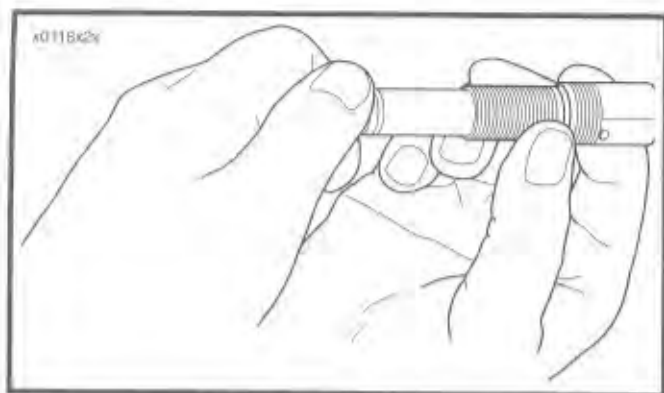

Figure 2-70
- b. See Figure 2-70. Holding thumb on detent spring and ball, back out (turn counterclockwise) rebound adjuster to last "click." Turn down (clockwise) 13 "clicks"